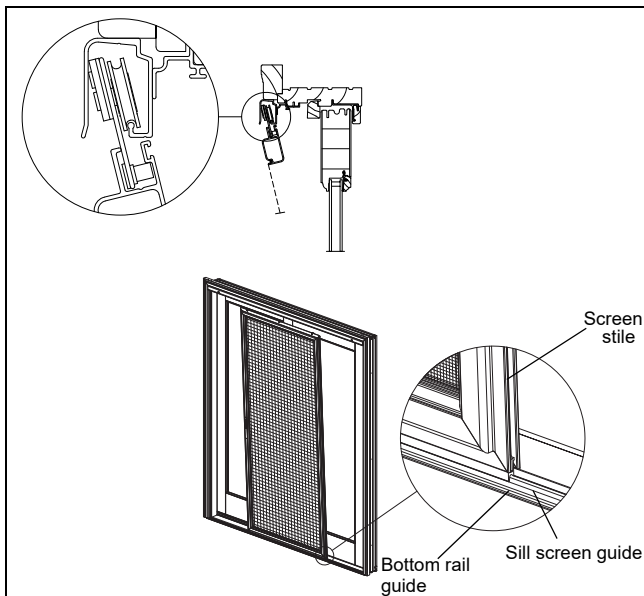

Figure 2
1. From the exterior, lift the screen and insert the roller bar assembly attached to screen into the roller track. Rest the bottom rail guide on the roller track. See figure 2.